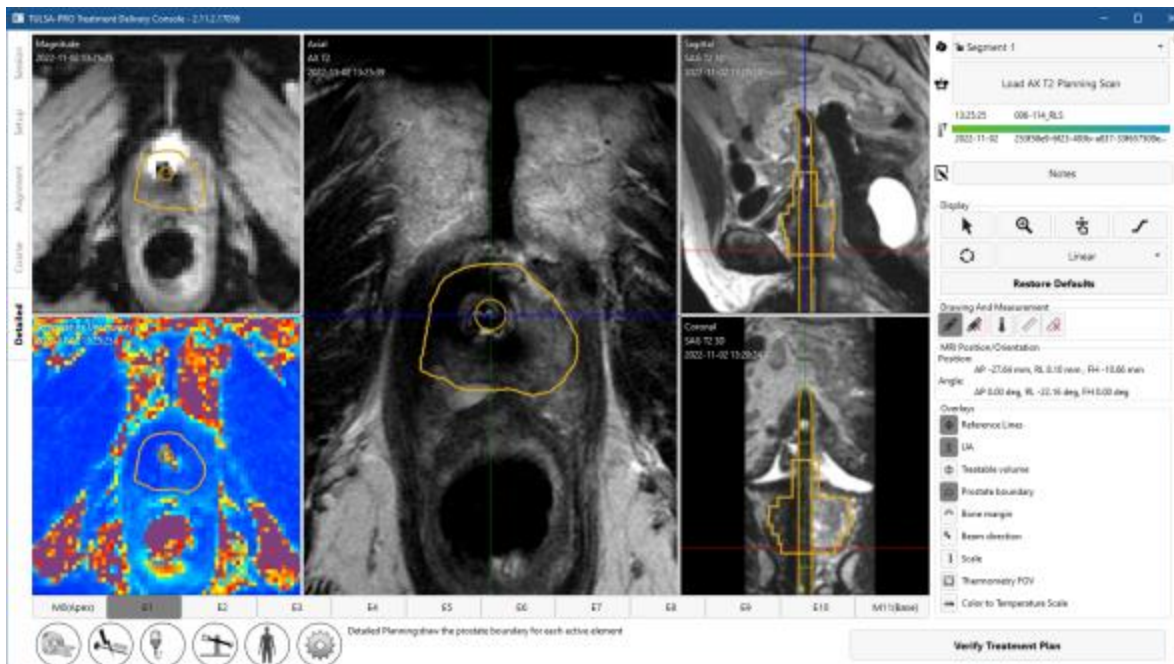

Figure 40: Detailed Planning after drawing boundaries
- To draw the prostate boundary, select the drawing tool and outline the tissue to be ablated on each slice based on the corresponding AX T2 and THERM magnitude images (Figure 40). You can select individual slices by clicking on the numbered tab at the bottom of the screen or by pressing the left and right arrow keys on the keyboard. Use the sagittal and coronal views of the SAG T2 images to verify the intended ablation zone in three dimensions.